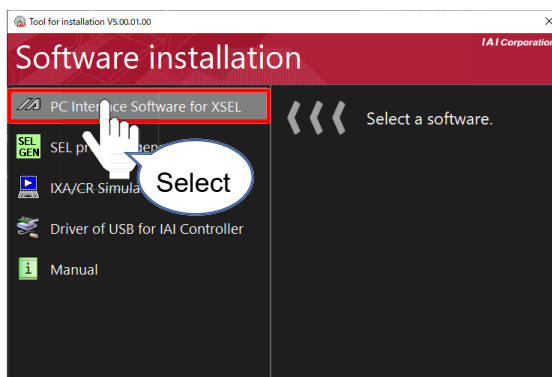

Fig. 1.4 Installation Screen
(2) When the tool for installation screen (Fig. 1.4) is displayed, select "PC Interface Software for XSEL."